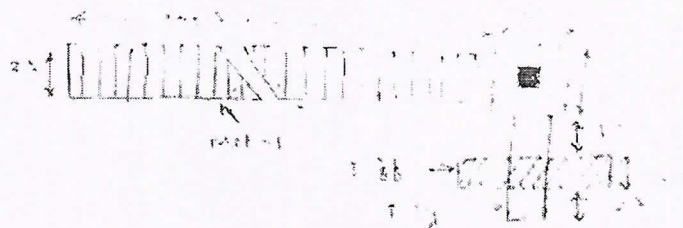

Fig. Q4(b)
- b. Calculate the capacitance of the structure given below in Fig.Q4(b). (10 Marks)